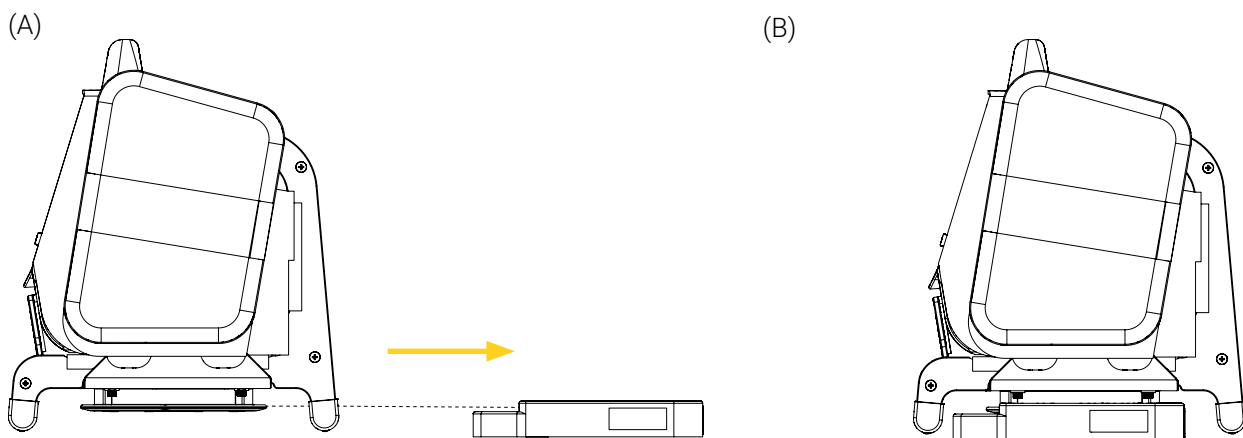

Figure 4: Installing the support bracket in a Standard Surface Base
1. Align and insert the disc of the support bracket in the Standard Surface Base (Figure 4 A), paying close attention not to wedge the cables of the medical device.
2. Push the support bracket all the way back in the base until it is locked (Figure 4 B).